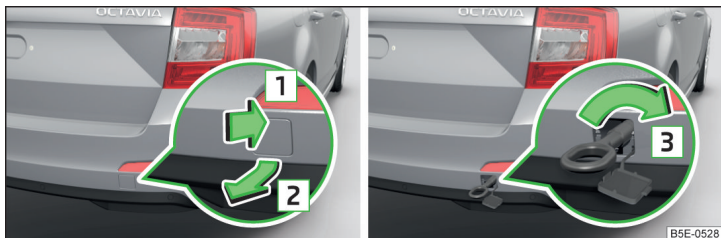
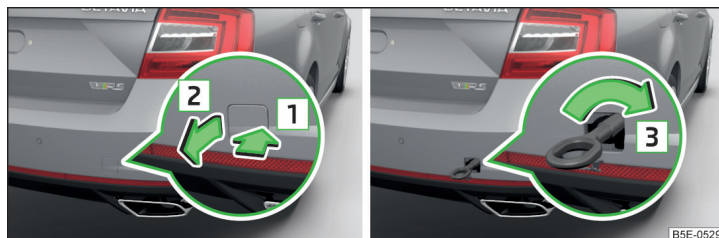

Fig. 221 Expansion of the cap / installation of towing eye - Version 1
Fig. 222 Expansion of the cap / installation of towing eye - Version 2
- Press on the cap in the direction of the arrow **1** » Fig. 221 or » Fig. 222.
- Manually screw the towing eye in as far as it will go in the direction of the arrow **3** » Fig. 221 or » Fig. 222 to the stop » **!**.